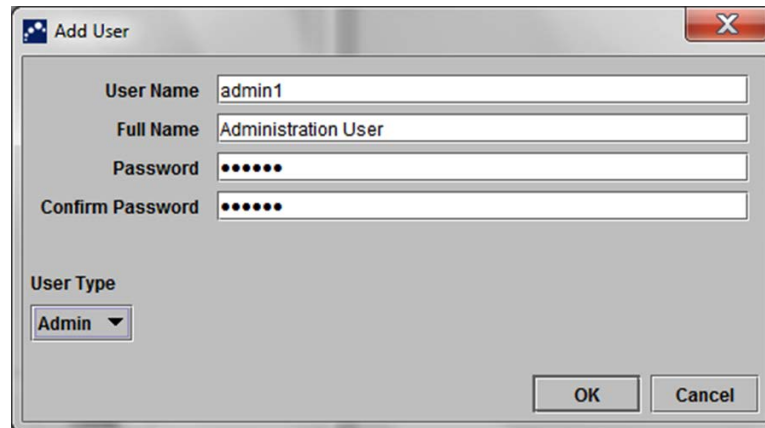

Figure 2-52. Add User Dialog Box
2. In the GeneXpert Dx System window (see Figure 2-38), on the **Setup** menu, click **User Administration**. The User Administration dialog box appears. See Figure 2-52 if adding a local user or see Figure 2-53 if adding a remote LDAP user.
1. In the GeneXpert Dx System window (see Figure 2-38), on the Setup menu, click **User Administration**. The User Administration dialog box appears. See Figure 2-52.